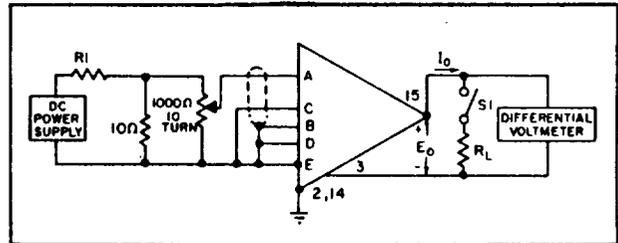

Figure 6-8. Output Impedance Test Circuit
- 1) Connect the amplifier as shown in Figure 6-8. Select R1 to provide the amplifier output, specified below. No attenuator is required when testing the amplifiers with gain multipliers at low gain settings. R_L is a 20 ohm resistor.